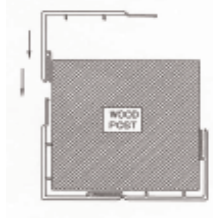

Figure 2
5. Snap together the third piece of Post Wrap. SEE FIGURE 2.